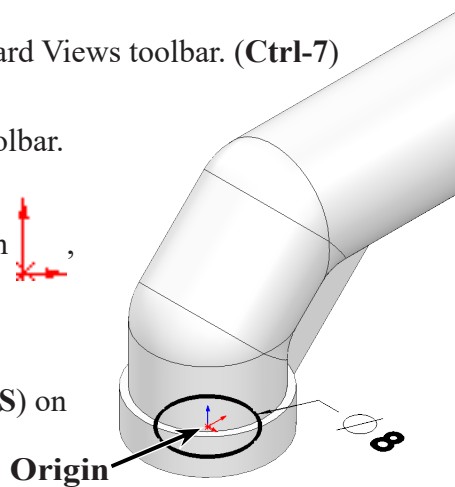

Fig. 32
Step 4. Sketch a circle starting at the Origin , **Fig. 32**.
Step 5. Click **Smart Dimension**  (S) on the Sketch toolbar.
Step 6. Dimension **diameter 8**, **Fig. 32**.